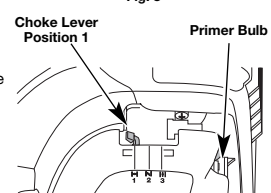

Fig. 9
3. Fully press and release the primer bulb 10 times, slowly. Some amount of fuel should be visible in the primer bulb and fuel lines (Fig. 9). If you can't see fuel in the bulb, press and release the bulb as many times as it takes before you can see fuel in it.
4. Place the choke lever in **Position 1** (Fig. 9).
6. Place the choke lever in **Position 2** (Fig. 9).
9. Place the choke lever in **Position 3** (Fig. 9). The unit is ready for use.